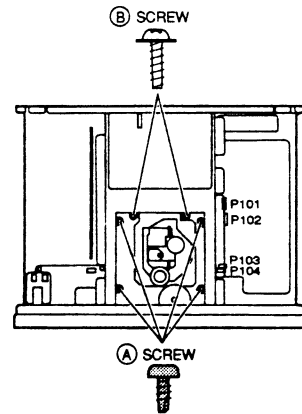

Fig. 3-2
- 1) Remove the two (B) screws on the MECHANISM BLOCK. (Refer to Fig. 3-2)